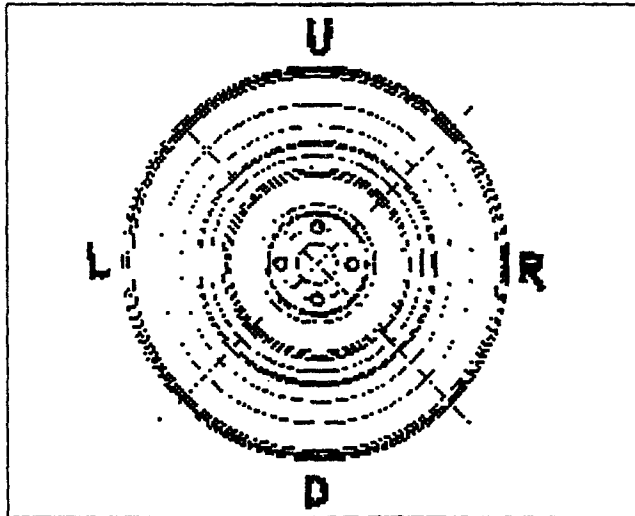

Fig.57
- C. The wheel weight could have been placed at a wrong angle. To check this, position the wheel at the correction position for the outer plane. If the wheel weight previously attached is in sector 'L' or 'R' of Fig.57, move the wheel weight up about 2 cm (1"). If the wheel weight is in sector 'D' cut a piece of the wheel weight of an approximate value corresponding to the value shown on the right display, or replace the wheel weight with a lighter one. If the wheel weight is in sector 'U' add a weight of value indicated by the display or replace the wheel weight with a heavier one. Repeat the same operation for the inner plane.